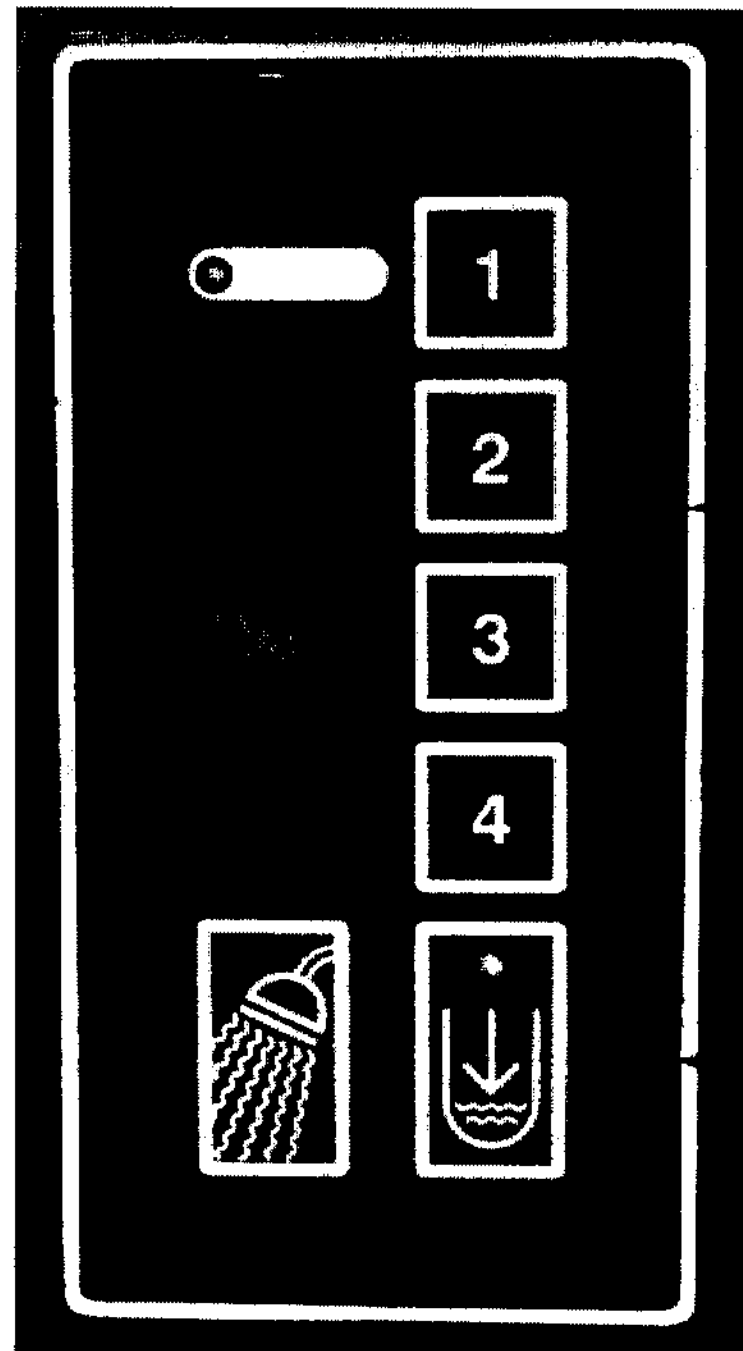

Fig. 49
**Flavor/Control Switch:** This switch is employed to select the desired flavor of shake - Fig. 49.